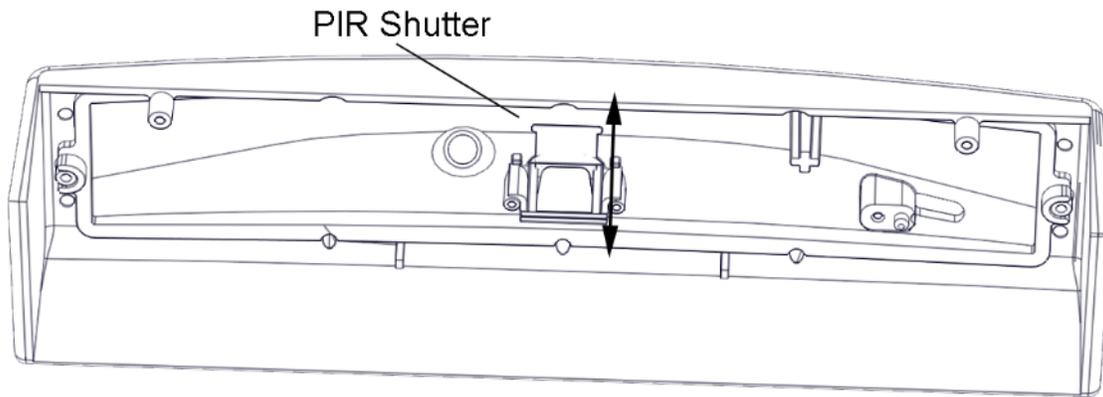

Figure 42. PIR Shutter
- IF PIR coverage needs to be changed, THEN ADJUST shutter to desired opening (see Figure 42, “Adjusting the PIR Shutter”).